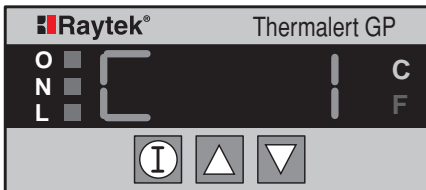

Figure 14: Degrees C Activation Display
1. Press the  button until a “C” shows in the display (Figure 14).